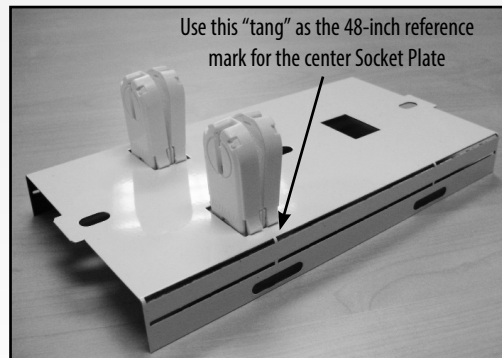

Figure 5: Locate the RetroFit "Center" Socket Plate on the 8-foot luminaire housing.
- To install the fixture bracket center section, find the center of the fixture housing. Place a mark approximately 48-inches from the left or right end of the fixture housing. When you have located the center of the fixture housing, install the center section socket plate. Align the center section socket plate over the 48-inch mark using the two (2) lamp sockets as a guide. See Figure 5.